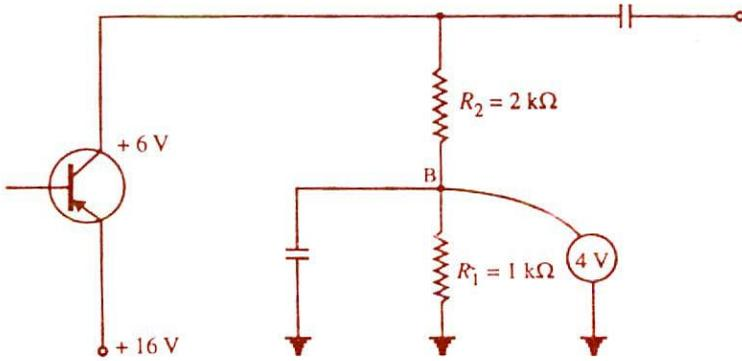

Fig. 12.21
**Example 12.10.** Fig. 12.21 shows a transistor circuit. The manufacturer of the circuit shows that collector potential is to be +6V. The voltage measured at point B by a technician is found to be +4V. Is the circuit operating properly?